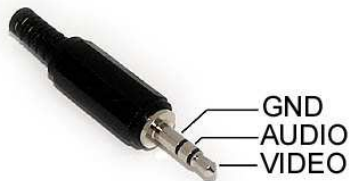

Figure 12, A/V Plug Details
- 8.2 There are two audio/video outputs (AV-1 and AV-2). They use a traditional 1/8" (3.5mm) 3-conductor miniature phone plug (available separately). The pin-out is shown in Figure 12.